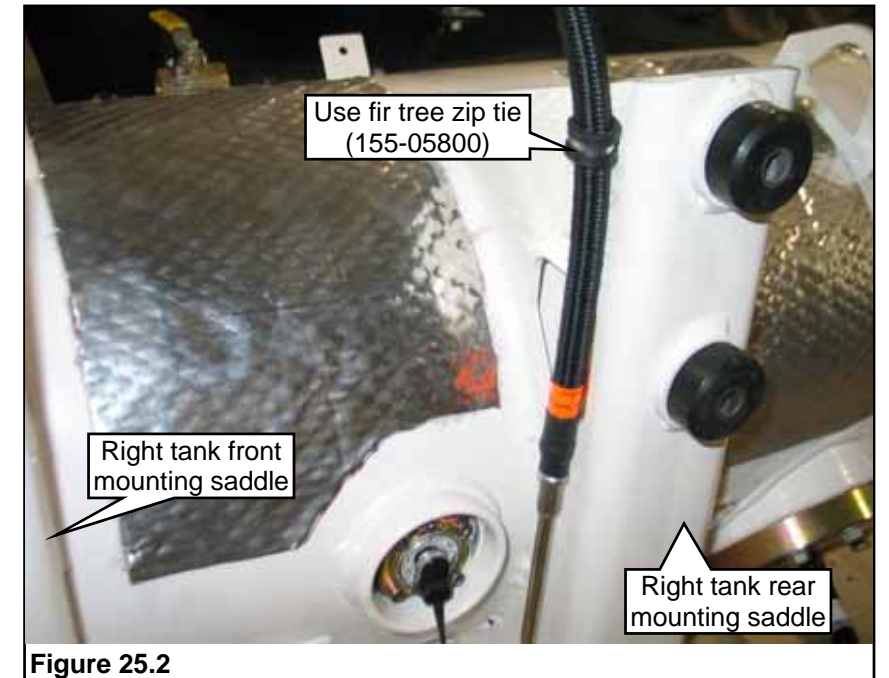

Figure 25.2
1. Install one fir tree zip tie in the right short tank rear mounting saddle to secure the tank-mounted fuel transfer line. **Figure 25.2.**